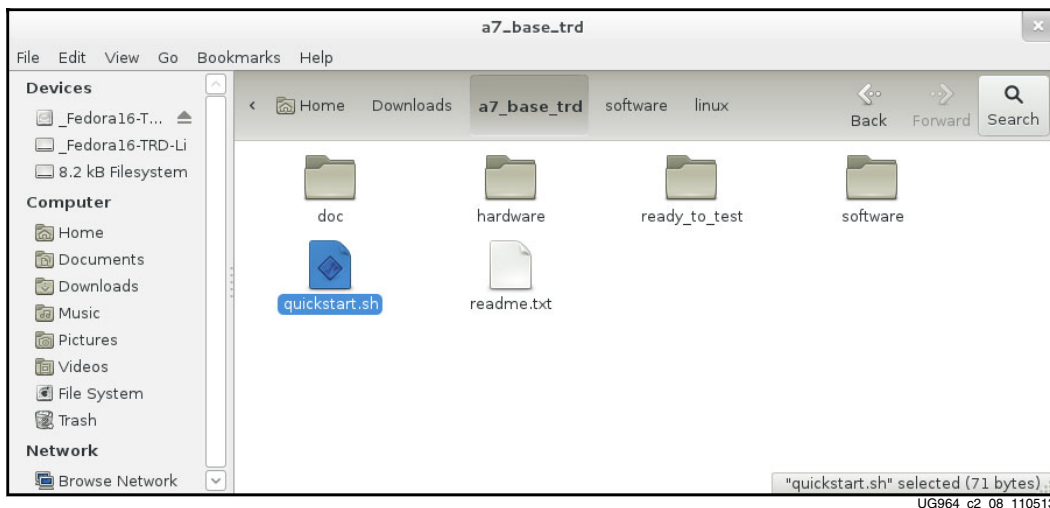

Figure 2-8: Structure of `a7_base_trd` Directory
- Download the reference design from the AC701 Evaluation Kit Documentation webpage and copy the `a7_base_trd` folder to the desktop (or a folder of choice). Double-click the copied `a7_base_trd` folder. Figure 2-8 shows the content of the `a7_base_trd` folder.